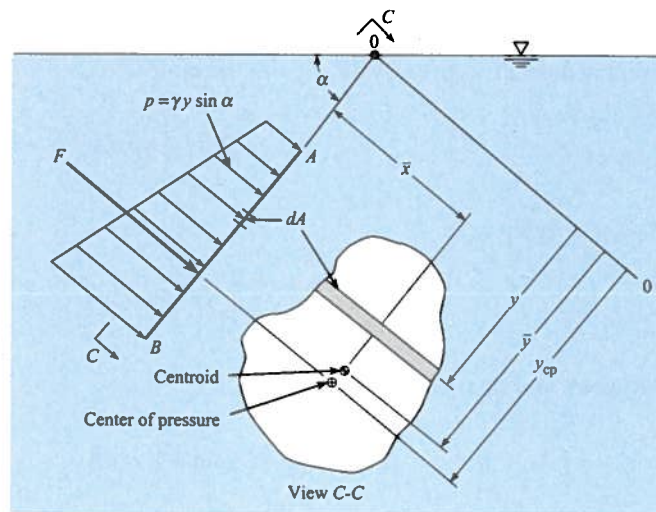

FIGURE 3.20
Next, we will show how to find the force on one face of a panel (e.g., a gate, a wall, a dam) that is acted on by a hydrostatic pressure distribution. To begin, sketch a panel of arbitrary shape submerged in a liquid (Fig. 3.20). Line AB is the edge view of a panel. The plane of the panel intersects the horizontal liquid surface at axis $0-0$ with an angle α . The distance from the axis $0-0$ to the horizontal axis through the centroid of the area is given by \bar{y} . The distance from $0-0$ to the differential area dA is y .
This subsection shows how to derive an equation for the vertical location of the center of pressure (CP). For the panel shown in Fig. 3.20 to be in moment equilibrium, the torque due to the resultant force F_p must balance the torque due to each differential force.
In Eq. (3.33), the area moment of inertia \bar{I} is taken about a horizontal axis that passes through the centroid of area. Formulas for \bar{I} are presented in Fig. A.1. The slant distance \bar{y} measures the length from the surface of the liquid to the centroid of the panel along an axis that is aligned with the “slant of the panel” as shown in Fig. 3.20.